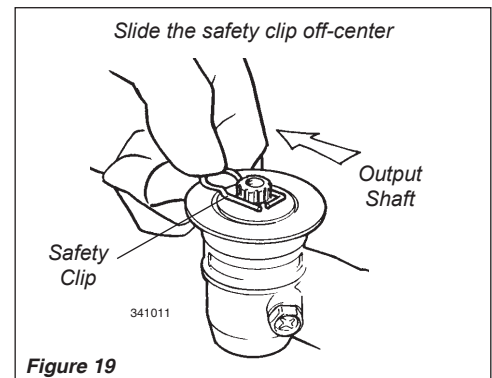

Figure 19
2. Slide the safety clip off-center. See Figure 19.